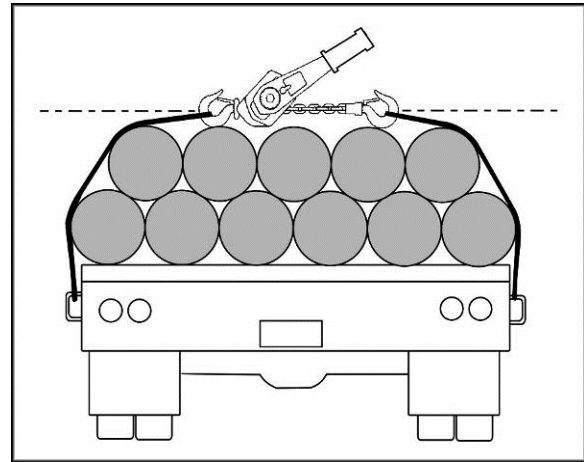

Figure 9
- When connecting to a wire rope sling or strap system, the lever hoist must be applied along a straight line parallel to the surface on which it is resting. See Figure 9.